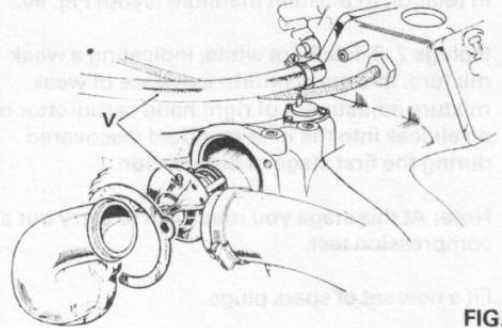

FIG. 85
31. Release the vent hose "V" at the centre of the inlet manifold, as seen in **Fig. 85**, blow down the hose, water should flow freely from the manifold pipe. Any blockage is usually in the pipe and may be cleared using a 3 mm (1/8 in) drill.
32. If in doubt the thermostat "V" **Fig. 85** should be checked for operation and correct installation. The vent hole in the thermostat flange must be at the top to ensure air locks do not develop.